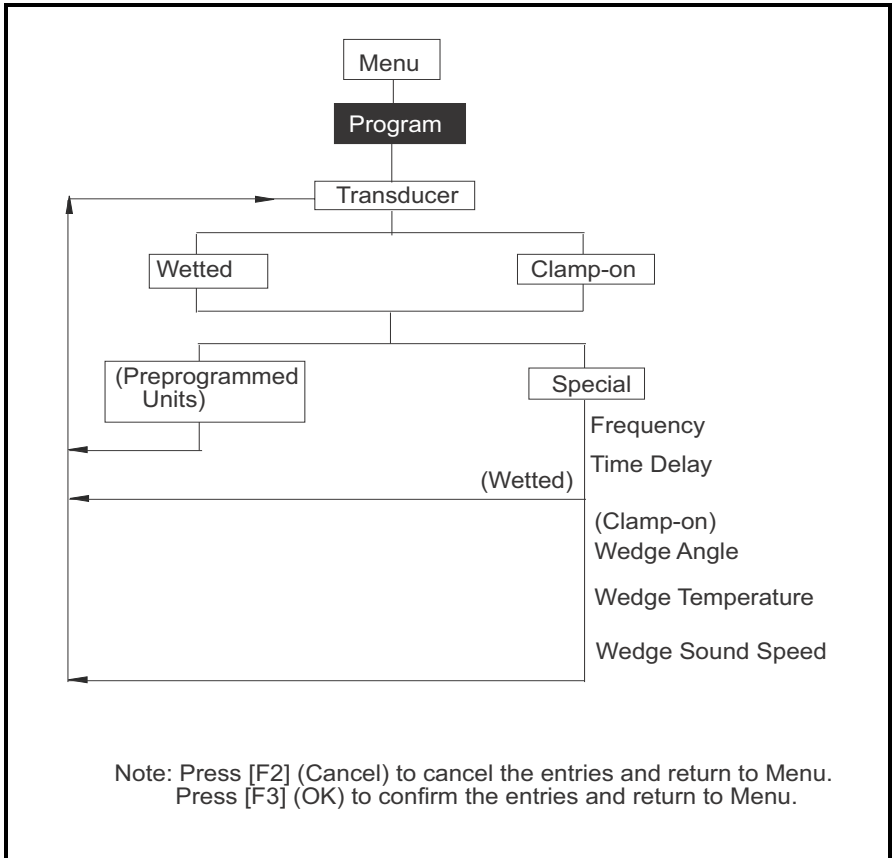

Figure 143: Transducer Option
- Transducer Option - Figure 143 on page 227